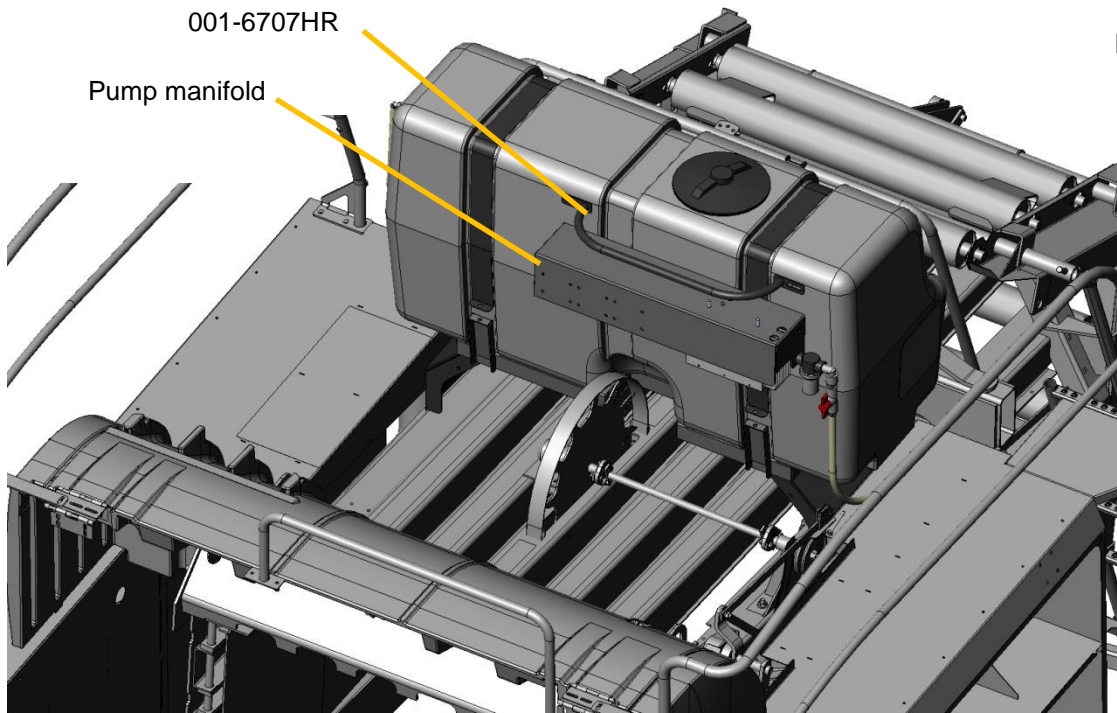

Figure 4
1. Locate and attach the filter bowl assembly to the outside of the pump manifold. Remove the four flange bolts that connect the two parts of the pump manifold together. Figure 4
2. Connect the pump manifold mounting bracket to the tank and secure with six 3/8" x 3/4" flange bolts. Reinstall the other half of the pump manifold and secure with four 3/8" x 3/4" flange bolts. Figure 4
3. Install the handrail (001-6707HR) above the pump manifold using two 3/8" x 3/4" flange bolts. Figure 4
5. Locate the 1/2" hose and connect the filter bowl assembly to the tank fitting using the supplied two hose clamps. Figure 4